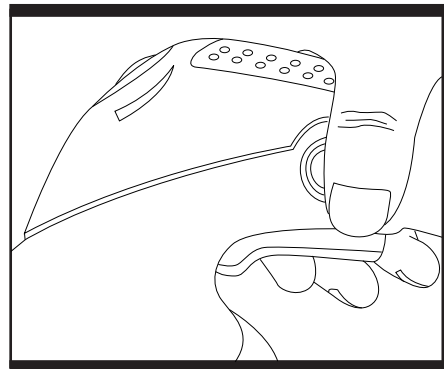

Fig. 5
5. Operating the trigger switch (Fig. 5)